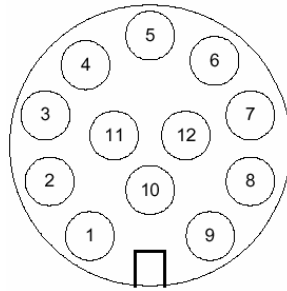

Figure 10-3: GPS connector pinouts
- **Connector pinouts:** The GPS connector receptacle contains 12 male contacts, as displayed in Figure 10-3.